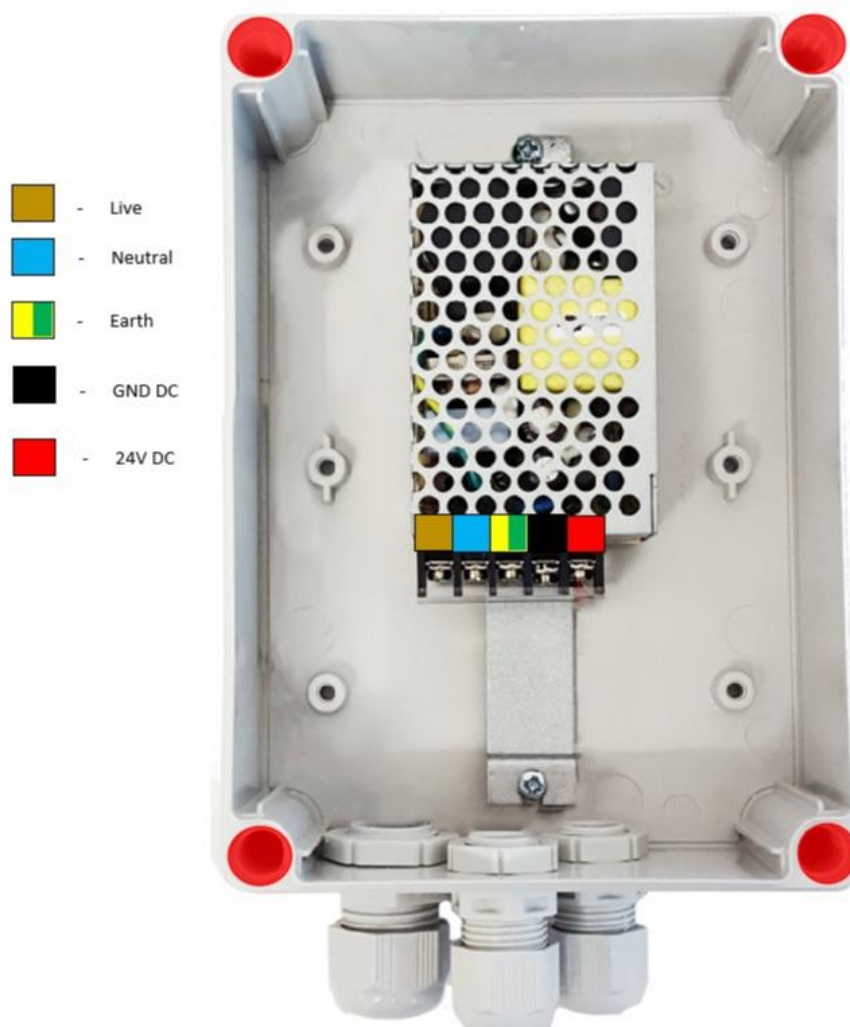
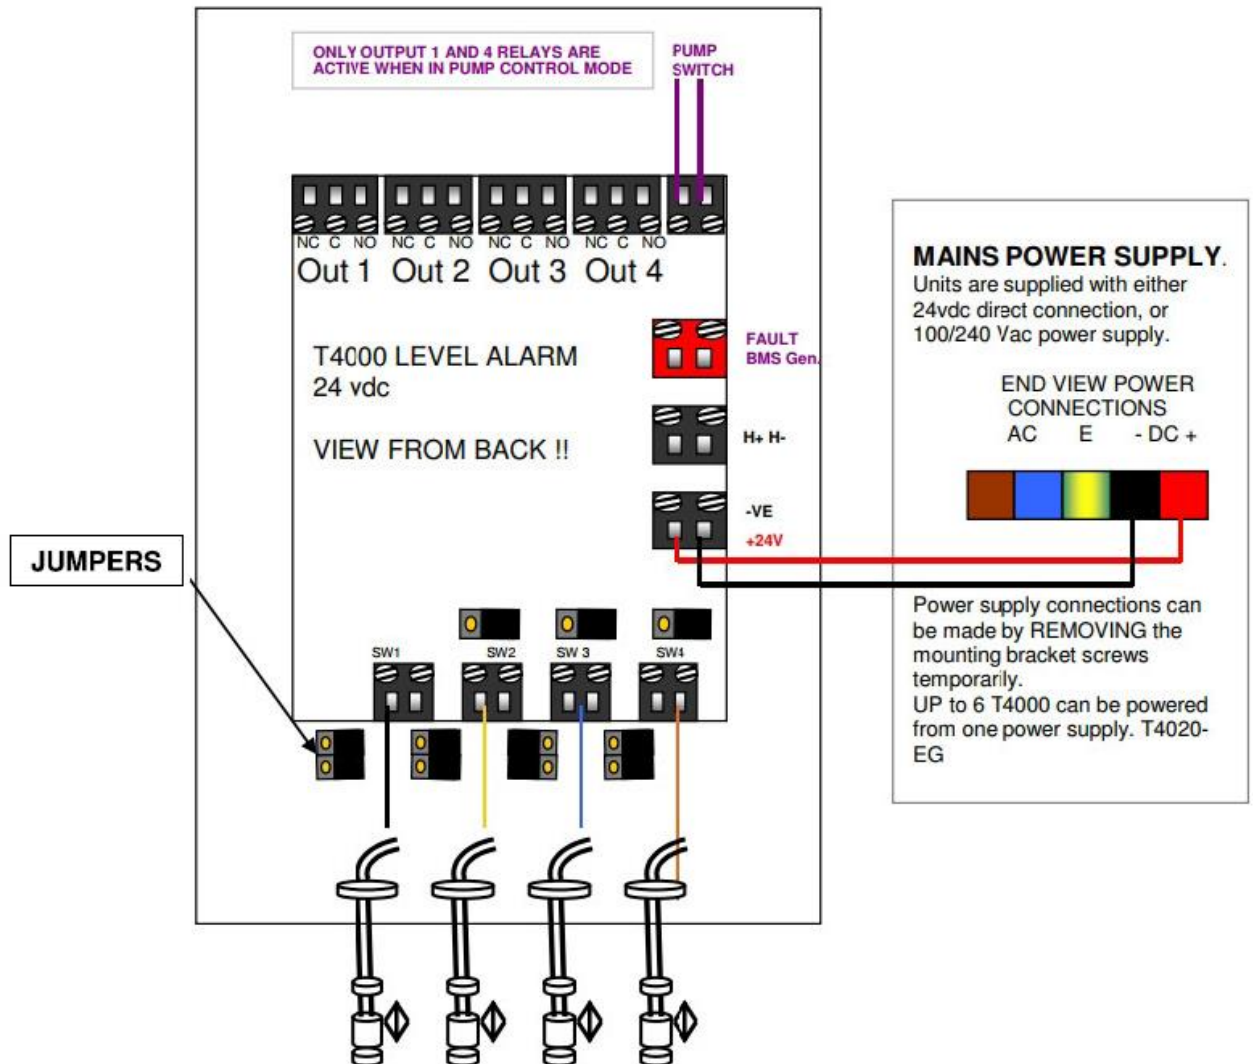

Figure 1
Figure 2
See **Figure 1** the distance between mounting holes is 110mm wide X 160mm high.
The T4000 has the option of coming with a **240vac to 24vdc PSU** as shown below in **Figure 1**, if a PSU is supplied then 240vac should be wired into the LNE terminals, the output of the PSU is 24vdc and the +- terminals should be wired to the +- terminals of the T4000 as shown in **Figure 2**.
- Float switches provided by OLE are Normally Closed (NC) When in the **Down** position.
- The T4000 inputs can be switched from NC to NO as required using the 2 jumpers on each circuit. **See Wiring diagram Figure 2.**
The T4000 can easily be configured to make it a pump controller by changing the position of the jumpers as shown in **Figure 2**.